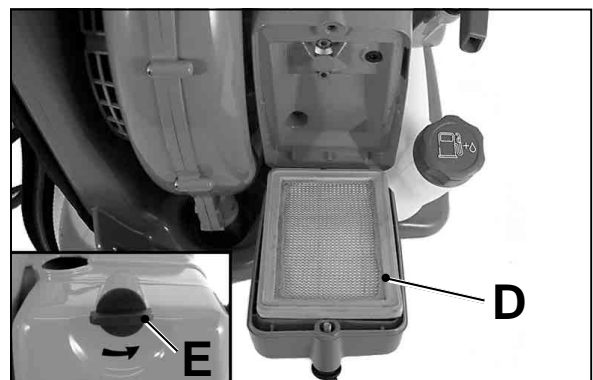

fig.4
- The generously sized **paper air filter** (“D” fig.4) provides the maximum protection of the engine also during use in very dusty environments and features a longer working lifetime.
- Easy access and maintenance of the **air filter:** just unscrew the knob (“E” fig.4) by hand.